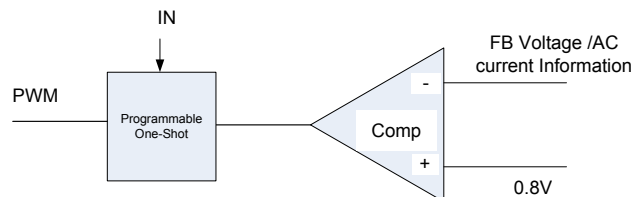

Figure 2. Simplified Control Schematic of AOZ2263AQI-18
The simplified control schematic is shown in Figure 2. The high-side switch on-time is determined solely by a one-shot whose pulse width can be programmed by one external resistor and is inversely proportional to input voltage (IN). The one-shot is triggered when the internal 0.8V is higher than the combined information of FB voltage and the AC current information of inductor, which is processed and obtained through the sensed lower-side MOSFET current once it turns-on. The added AC current information can help the stability of constant-on time control even with pure ceramic output capacitors, which have very low ESR. The AC current information has no DC offset, which does not cause offset with output load change, which is fundamentally different from other V^2 constant-on time control schemes.